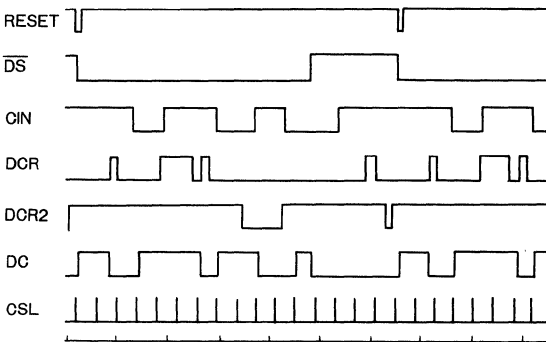

Fig.15
(2) DISK CHANGE/ (INDEX) (Table 2 , Fig.15参照)